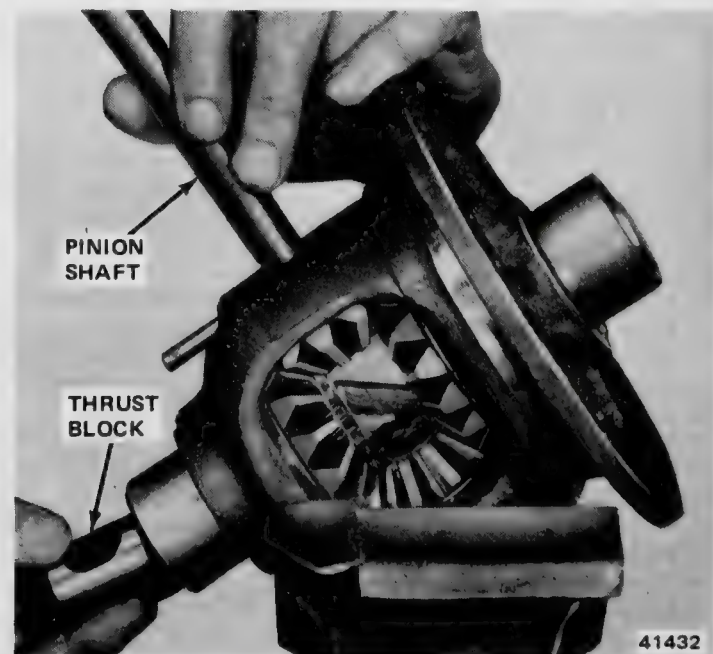

Fig. 2E-18 Pinion Shaft and Thrust Block Removal
(16) Remove pinion nut using tools J-8614-01 and J-22575 (fig. 2E-9).
(17) Remove axle yoke. If yoke can not be removed by hand, remove yoke using tools J-8614-01, 02, and 03 (fig. 2E-10).
(18) Install axle housing cover to prevent pinion gear from falling out of housing during removal.